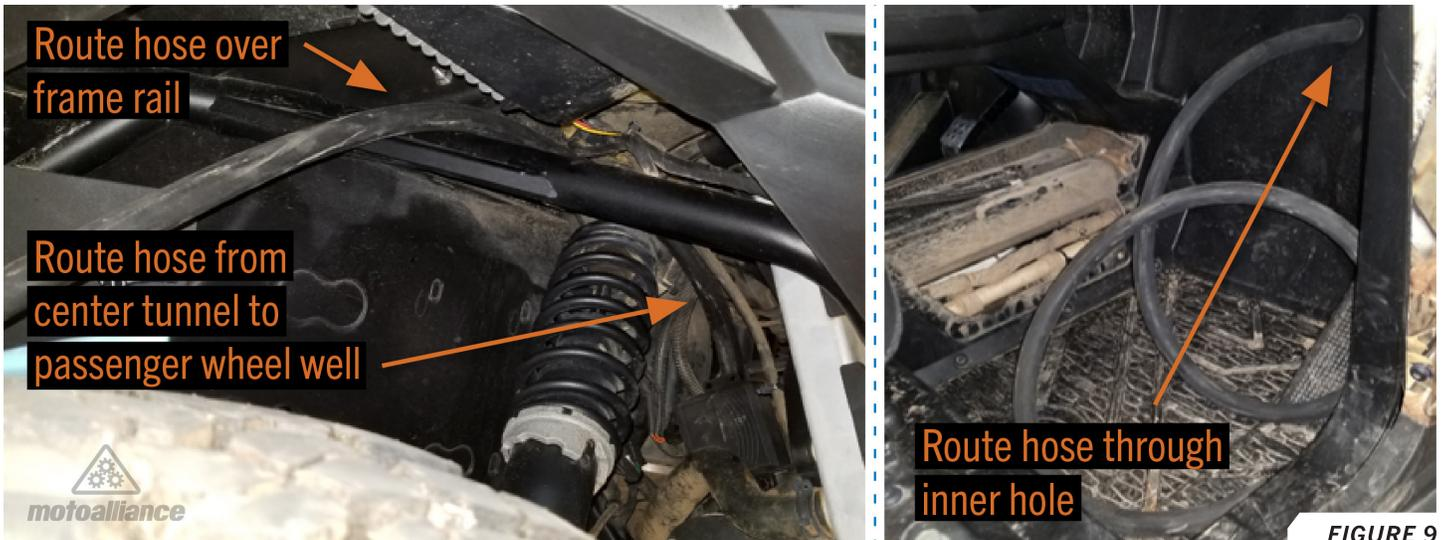

FIGURE 9
17. Route hose from center tunnel to passenger wheel well as shown in *FIGURE 9*. The hose should pass over the top of the frame rail and through the firewall via the inner 1¼" hole.
18. Pull excess hose through to the passenger foot well. There should be approximately three feet of hose remaining in the rear wheel well. *FIGURE 9*